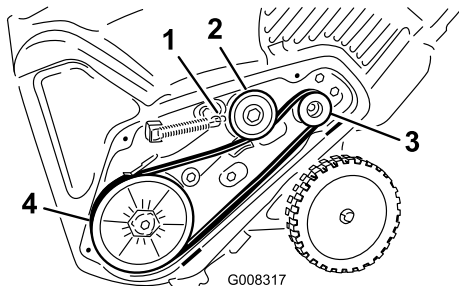

Figure 38
- Install the new drive belt, routing it as shown in (Figure 38).
- Install the brake spring onto the idler arm (Figure 38).